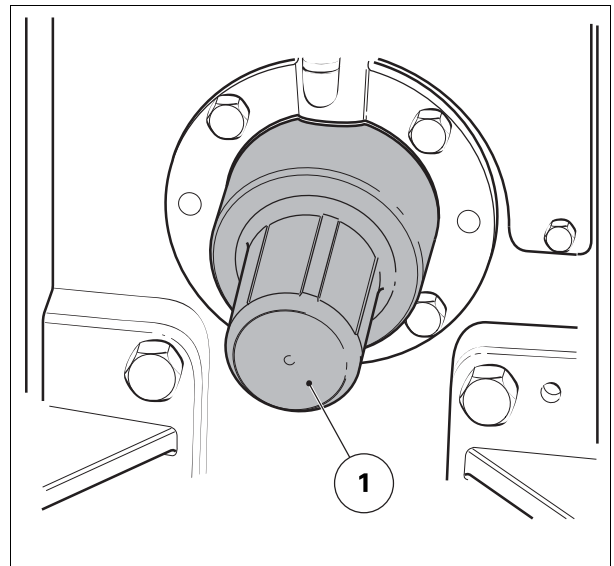

Fig. 8.
- Ensure that the PTO cap (1) is fitted when the PTO shaft is not in use fig. 8.
- (1) Correct assembly
- (2) Incorrect assembly